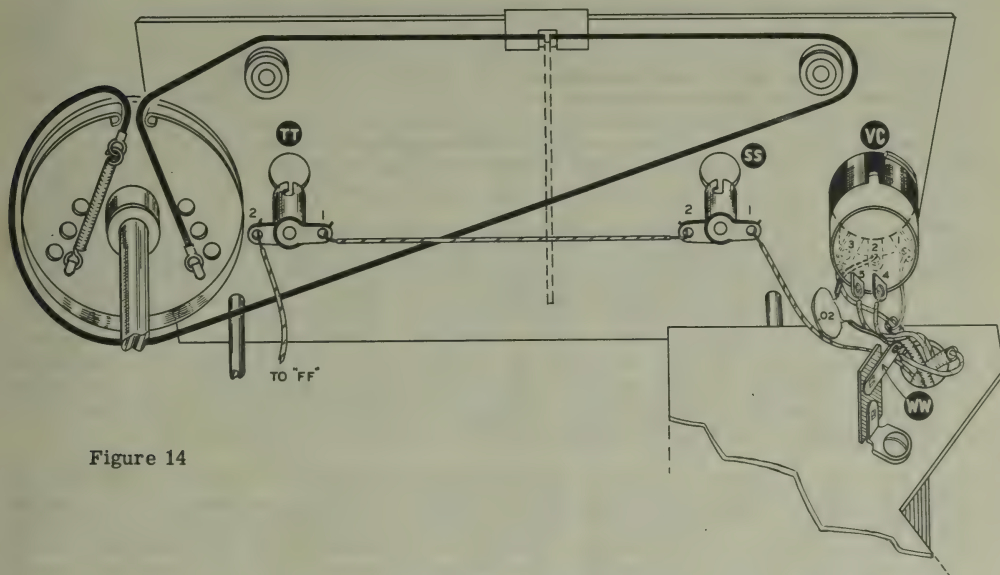
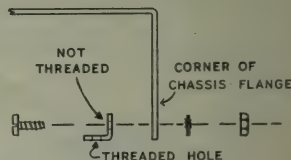

Figure 14
Figure 15
- (✓) String the dial cord as shown. It has been pre-cut to the proper length and no further adjustment is necessary. See Figure 14.
- (\*) Turn the receiver over and insert the end of the line cord through grommet N at the rear of the chassis. Tie a knot 2 1/2" from the end. Connect one lead of the line cord to M1 (S) and the other lead to M3 (S).
- (\*) Mount the four angle brackets as shown in Figure 15, using 6-32 x 3/16 screws, lockwashers and nuts.